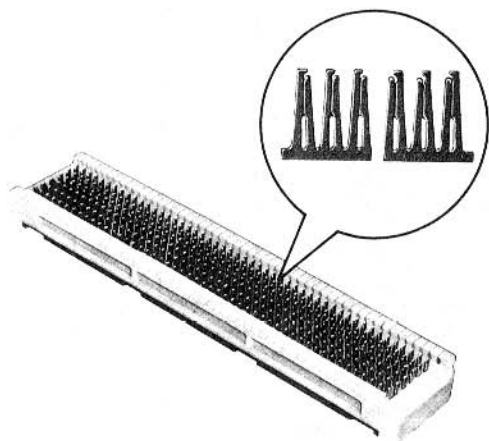

Fig. 1—66B3-50 Connecting Block
1.01 The 66-type connecting blocks (Fig. 1 through 11) consist of multiple terminal connectors inserted in molded plastic blocks and held in place by retaining plates.
66B3-50	White (Fig. 1)